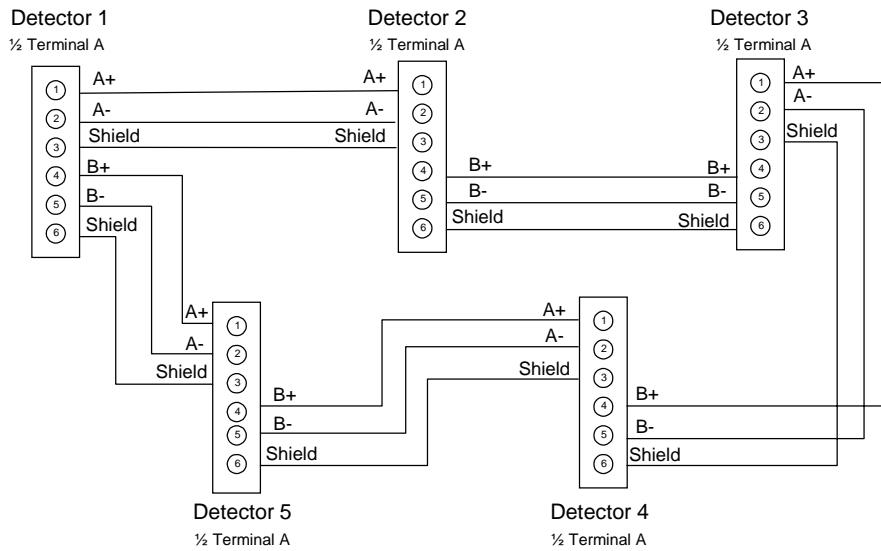

Figure 12 Wire Connection Details for VESDAnet (Closed Loop)
- b) Connect the VESDAnet wires as shown in Figure 12. This diagram is only an example for five detectors. This wiring method is similar for two or more detectors.
NOTE: It is strongly recommended that the Closed Loop configuration shown in Figure 12 is installed, to achieve a redundant fault tolerant loop. An Open Loop configuration is possible by not linking the VESDAnet wires between detector 1 and detector 5. Detector 1 and detector 5 must be programmed to the Opened Loop Configuration.